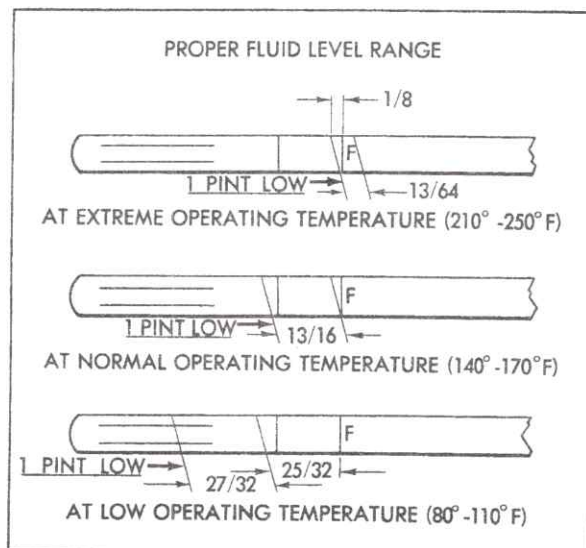

Fig. 0-16 Transmission Oil Level (Except 693)
The fluid level should be checked at every engine oil change. Add fluid, if necessary, until proper level is indicated on dipstick, Fig. 0-16. Proper fluid level is based on operating temperature. When checking fluid level, first run the engine at 800 rpm with selector lever in "P" (Park) position for 1-1/2 minutes to make certain converter is full. Reduce engine speed to slow idle, remove and wipe dipstick, then check fluid level.
6. Reduce engine speed to slow idle and check fluid level. Add fluid, if necessary, to bring to proper level, Fig. 0-16.
Each lubrication point shown in Fig. 0-16 is designated by a letter that corresponds with a letter in the note headings below.